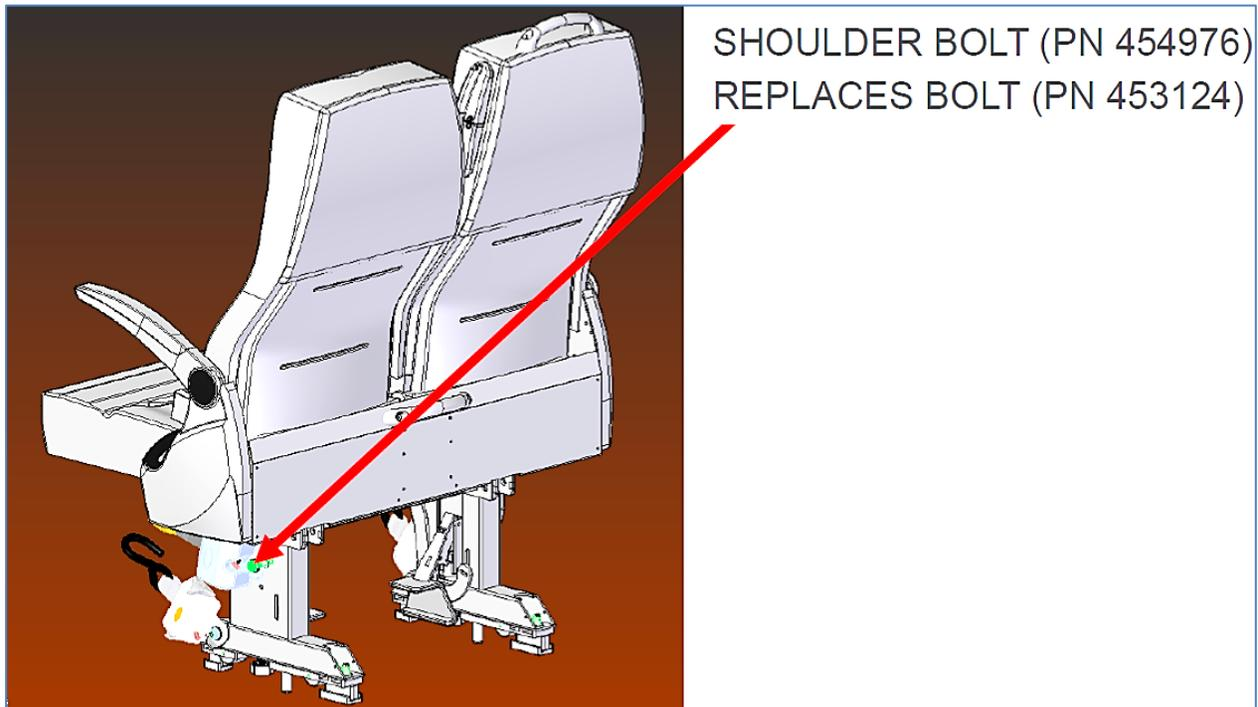

Figure 2
2. Replace existing bolt with shoulder bolt 454976 (Figure 2 & Figure 3). TORQUE 10-12 LBS-FT.